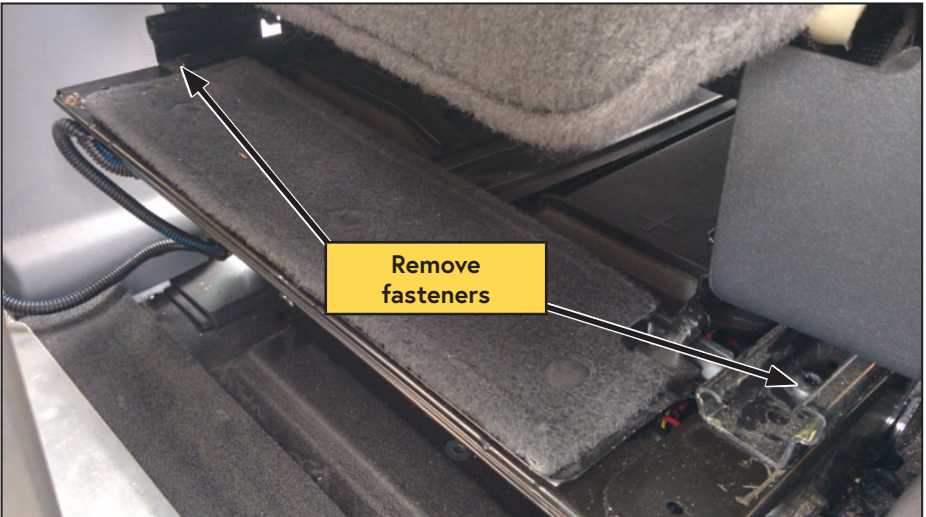

Figure 5 — Driver seat (rear)
- Move the driver seat completely forward and remove the 2 rear Torx fasteners (Figure 5).